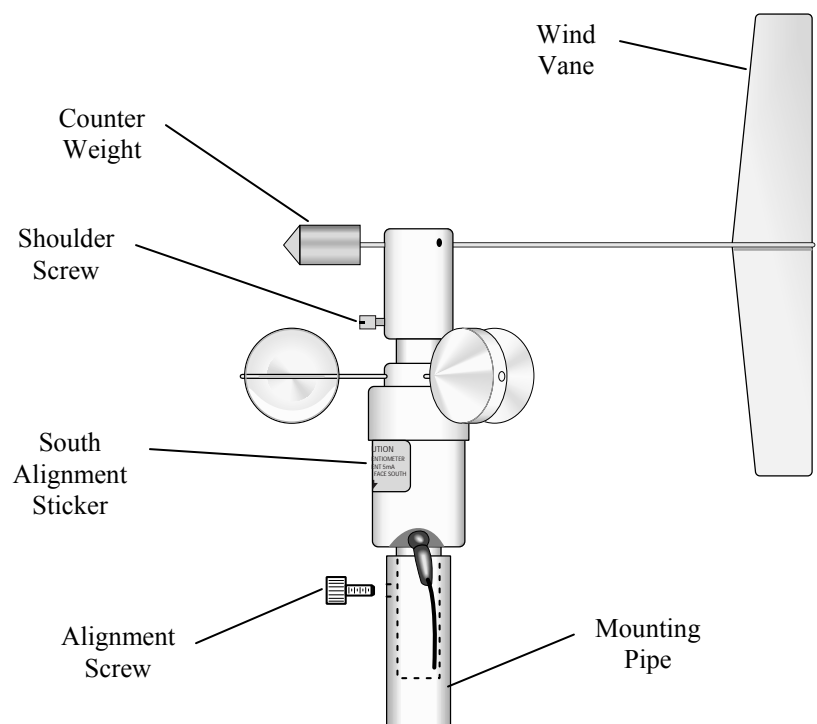

FIGURE 2.4-5. 034B Mounting to Pipe
2. Remove the alignment screw at the base of the 034B-ET (Figure 2.4-5). Insert the 034B into the 034B Mounting Shaft. Align the hole in the shaft with that in the 034B base and replace the screw. Do not overtighten the alignment screw. Do not remove the shoulder screw at this time.
4. See Figure 2.4-5 for the alignment sticker on the 034B. Align the arrow on this sticker with True South. The counterweight will also be pointing due south. Make sure the sensor cable is not being pinched by the U-bolt. Tighten up the U-bolt to hold the sensor firmly. Plug the cable into the mating connector on the sensor. Plug must be fully seated and locking ring turned fully clockwise.